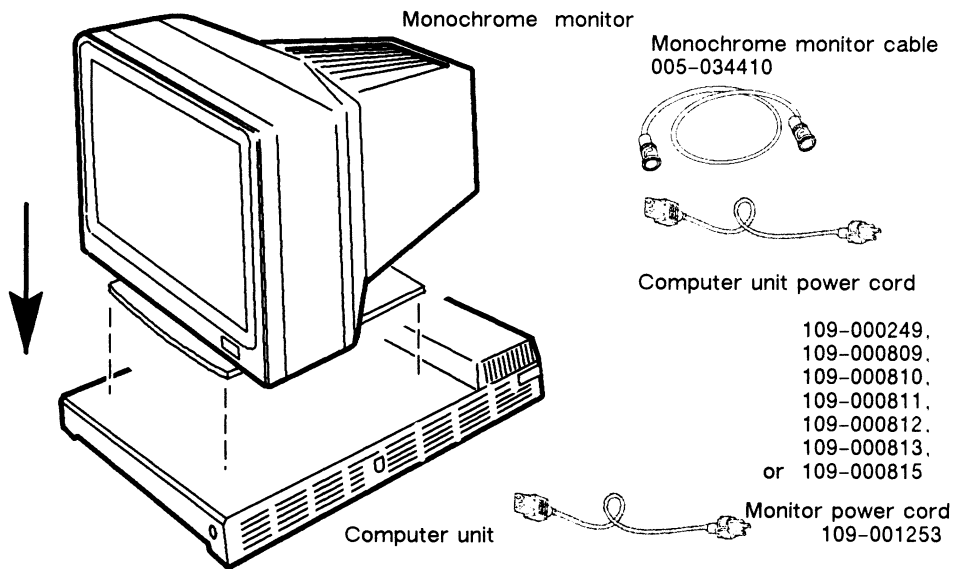

Figure 2-8 Monochrome Monitor and Required Power Cords and Cable
1. Place the monitor shown in Figure 2-8 on top of the computer unit.